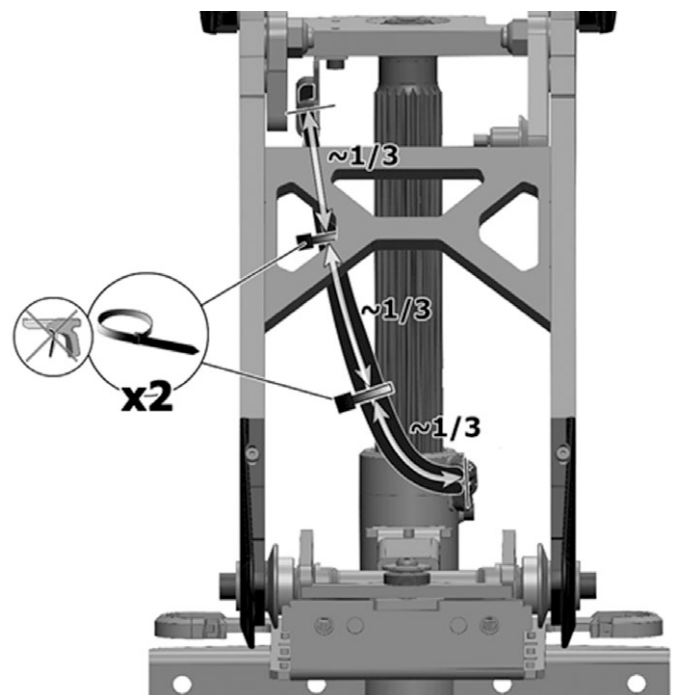

Figure 149. The bus cables are tied together with two cable ties, at regular distances on the cable loop.
13. The bus cables are tied together with two cable ties, at regular distances on the cable loop. See fig. 149.